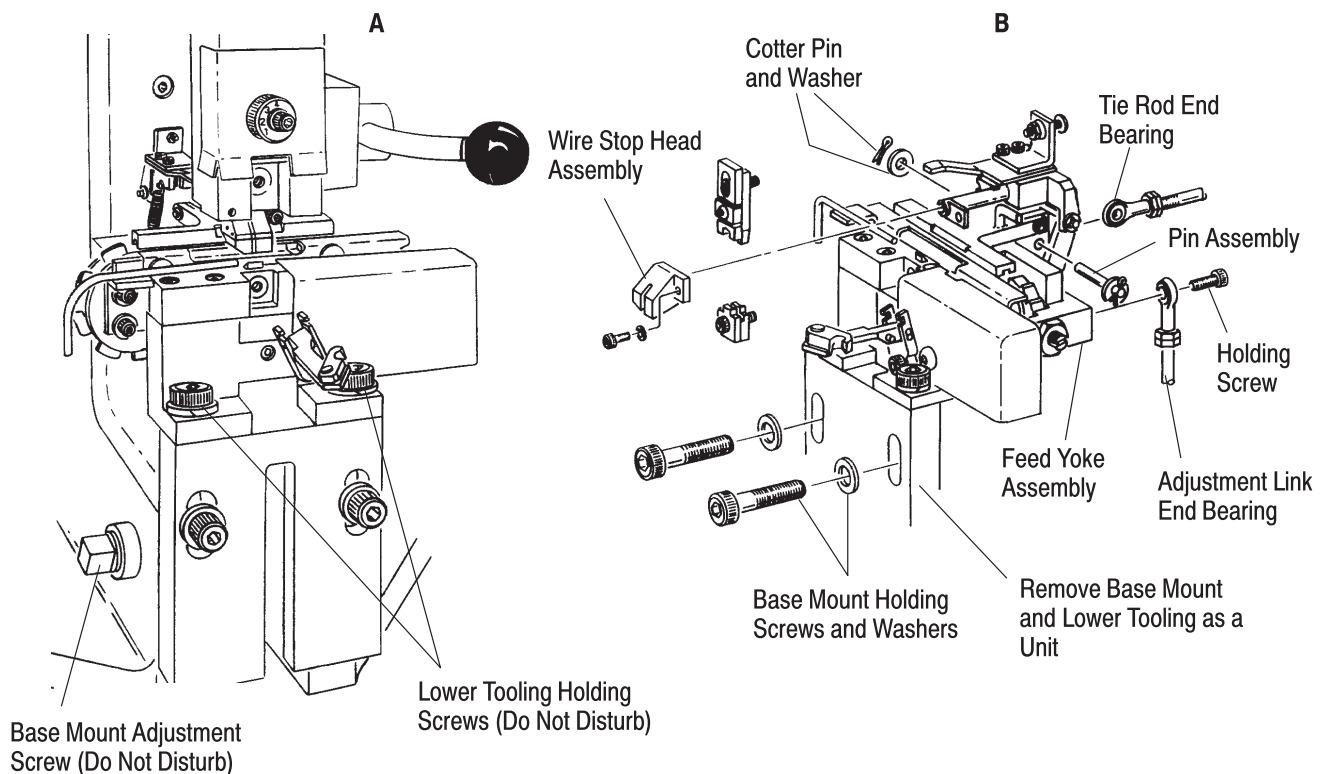
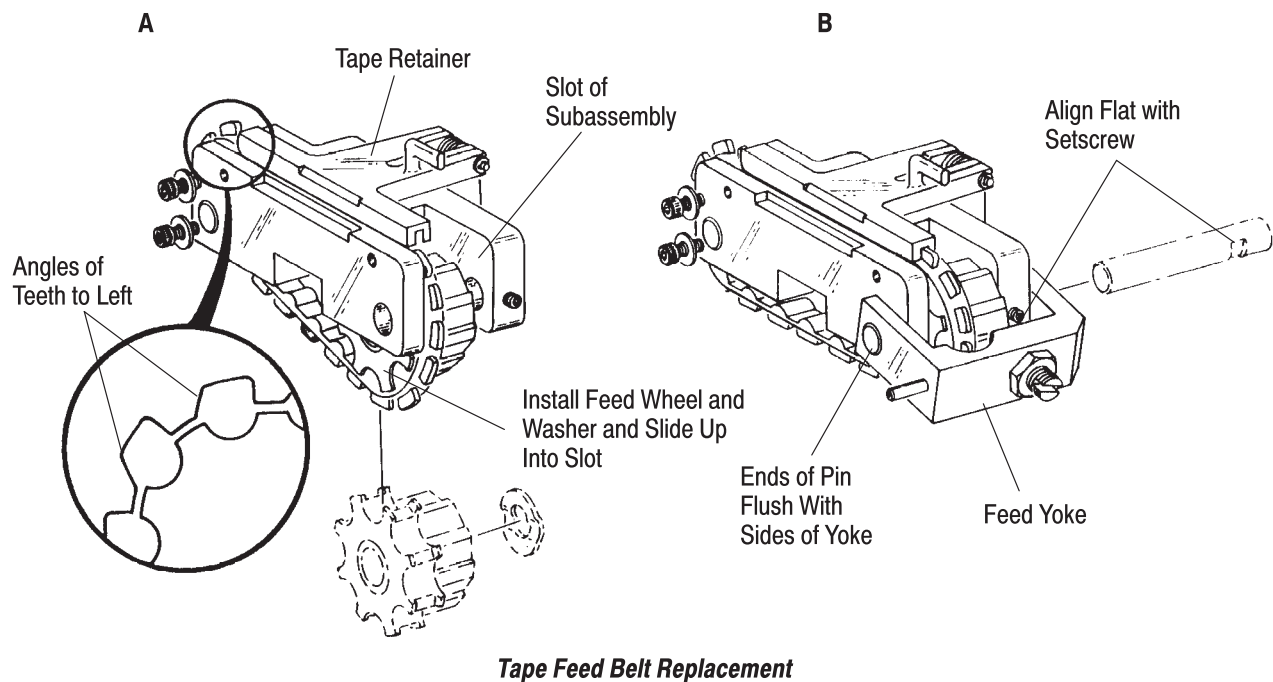

Figure 30
Figure 31
5. Remove one cotter pin and washer, then remove pin assembly from the tie-rod end bearing. Refer to Figure 30,B.
CAUTION *DO NOT disturb the lower tooling holding screws or the base mount adjustment screw, or damage to dies may occur. Refer to Figure 30,A. These screws are factory adjusted, and they control the die alignment and bottoming. If the screws are disturbed, contact your local field service engineer, or call the Tooling Assistance Center for alignment and adjustment.*
7. Remove base mount holding screws and washers as shown in Figure 30,B, then remove the lower tooling as a unit, as shown.
8. Loosen screws (104) and remove the terminal guide (20).
9. Remove screw (103) and remove metal guard (31).
10. Remove screw (53) and washer (47), then remove wire stop support assembly (11) as a unit.
11. Remove front clamp plate (9) containing pin (117) by removing two screws (46) and washers (47), then remove spring (99) while sliding index unit subassembly off of slide mount (23).
12. Remove the belt holddown (34) by removing two screws (63) and washers (64).
13. Pivot the feed yoke assembly (42) downward to gain access to setscrew (72), then loosen the setscrew. See Figure 31, B
14. Remove special pin (33), washer (54), and feed wheel (32) from the bottom of of the subassembly.
15. Lift the tape retainer (18) and remove old tape feed belt (30).
16. Install new tape feed belt by lifting tape retainer on indexing unit, being sure that angled portion of the belt teeth are to the left of the indexing subassembly assembly as shown in Figure 31,A.
17. Slide the feed wheel, washer, and belt up into the slot of subassembly, then align pin holes and insert special pin. Align flat on pin with setscrew, then tighten the setscrew. The ends of the pin must be flush the sides of yoke, as shown in Figure 31,B.
18. Install belt holddown (34) with two screws (63) and washers (64).
19. Slide the indexing unit subassembly all the way onto slide mount (23): pin inside of yoke (42) must enter slot in connecting link (28).
20. Lay spring (99) in bottom recess in slide mount (23), then compress spring with screwdriver while installing front clamp plate (9) with two screws (46) and washers (47). Release spring to butt against pin (117) in clamp plate.
21. Slide the wire stop support assembly (11) onto slide mount (23) and install screw (53) with washer (47).
22. Install terminal guide (20) and tighten screws (104).
23. Install metal guard (31) with screw (103).
24. Install assembled base mount and lower tooling against machine base and secure with two screws and washers as shown in Figure 30,B. Refer to CAUTION after Step 6.